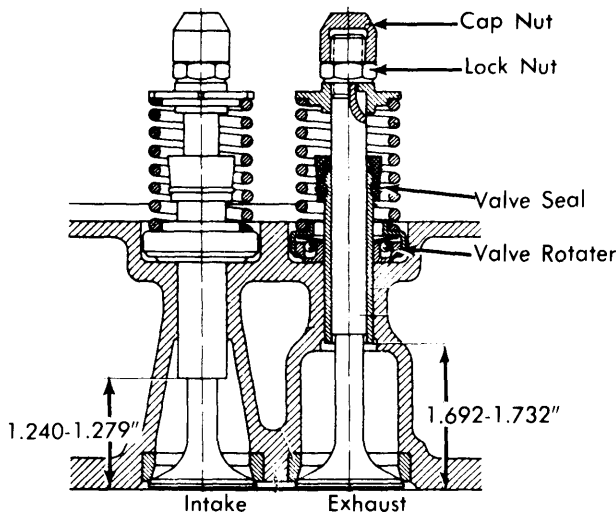

Fig. 2 Installed View of Valve Assemblies
- 3) Press in new guides from combustion side until specified distance is achieved. See Fig. 2. Check guide bores and remove any tight spots.